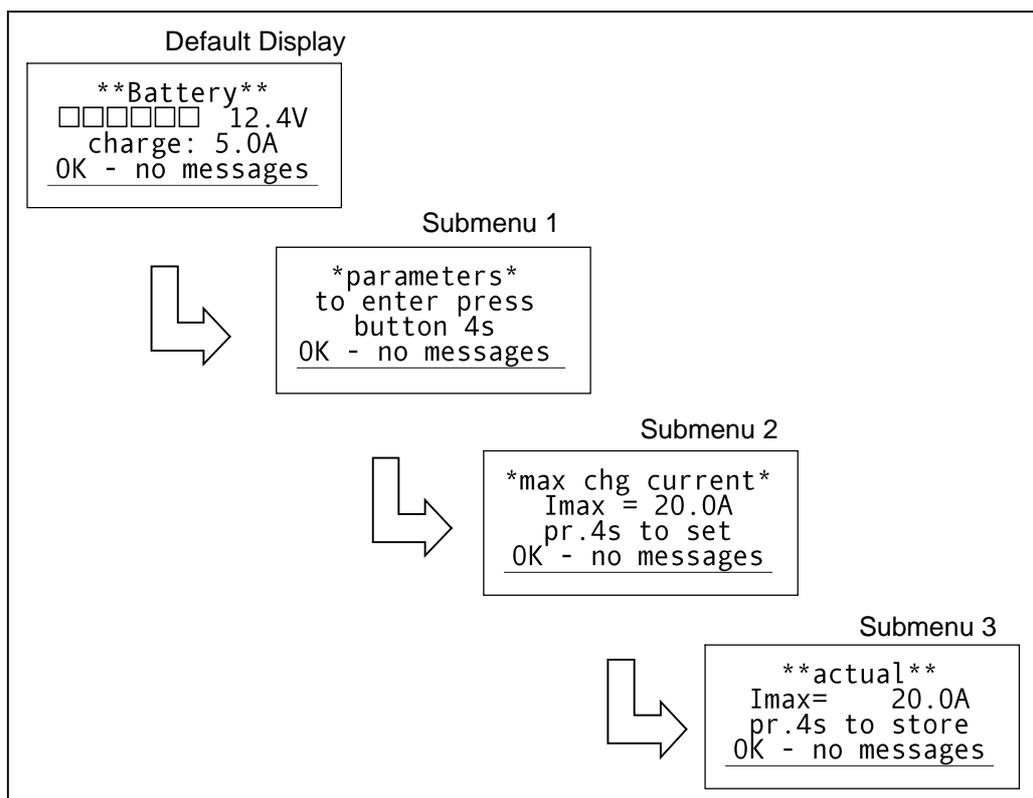

Fig. 11
5. Maximum Charging Current (Fig. 11)